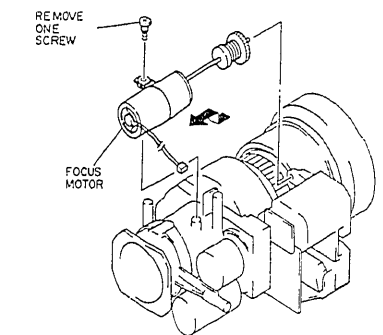

Fig. 2-102
- 1) Remove one (1) screw holding the focus motor. (See Fig. 2-102)
- 1) Remove one (1) screw holding the zoom motor. (See Fig. 2-102)